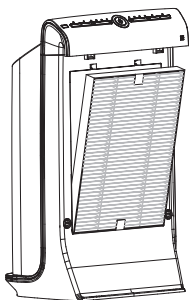

Fig 4
4. When putting the 3 in1 Enzyme • HEPA • Active Carbon filter into the machine. Please make sure the Enzyme side, which is in green color and with two labels attached on top and bottom, is facing outward. Please note wrong installation of filters will be resulted in abnormal operation. (Fig 4)